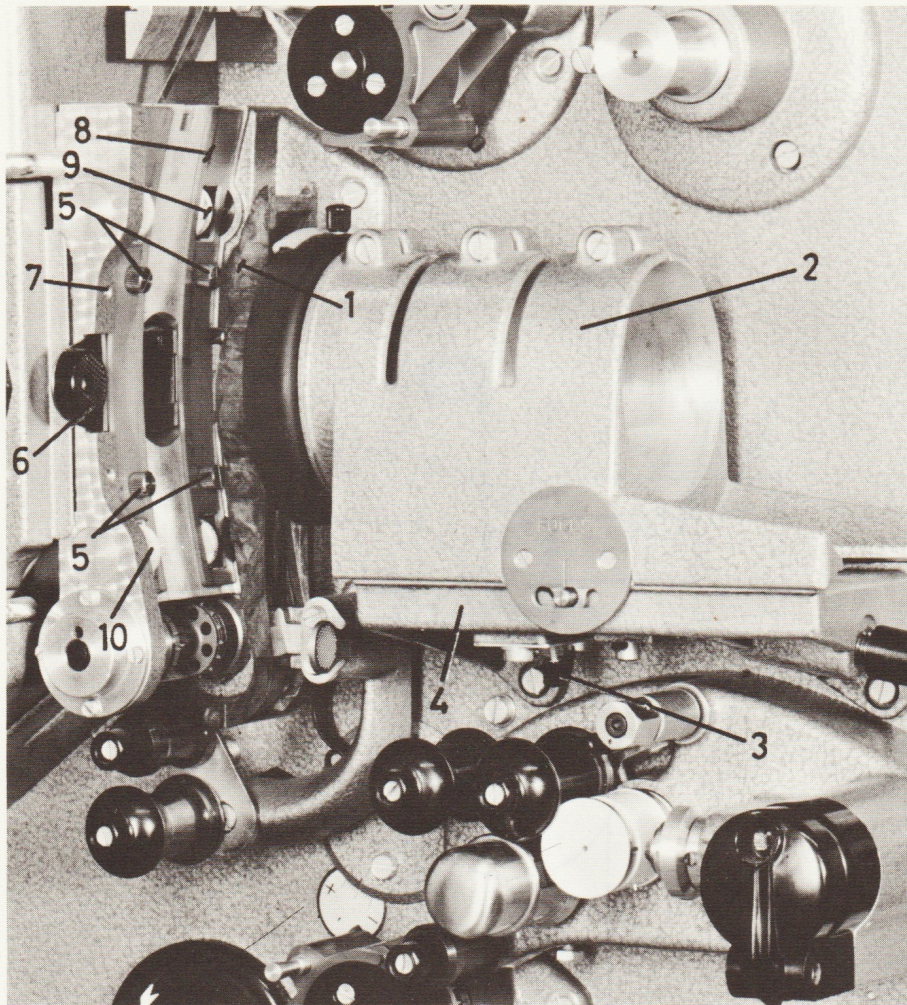

Fig. 2
### LENS HOLDER (fig. 2)
### APERTURE PLATES (fig. 2)
### RUNNING FACES OF THE RUNNER PLATE (fig. 2)
#### LATERAL PRESSURE ROLLERS (fig. 2)
- . Open pressure skate 1 (fig. 2).
- . Make sure that a whole frame is in the gate; then close pressure skate 1 (fig. 2).